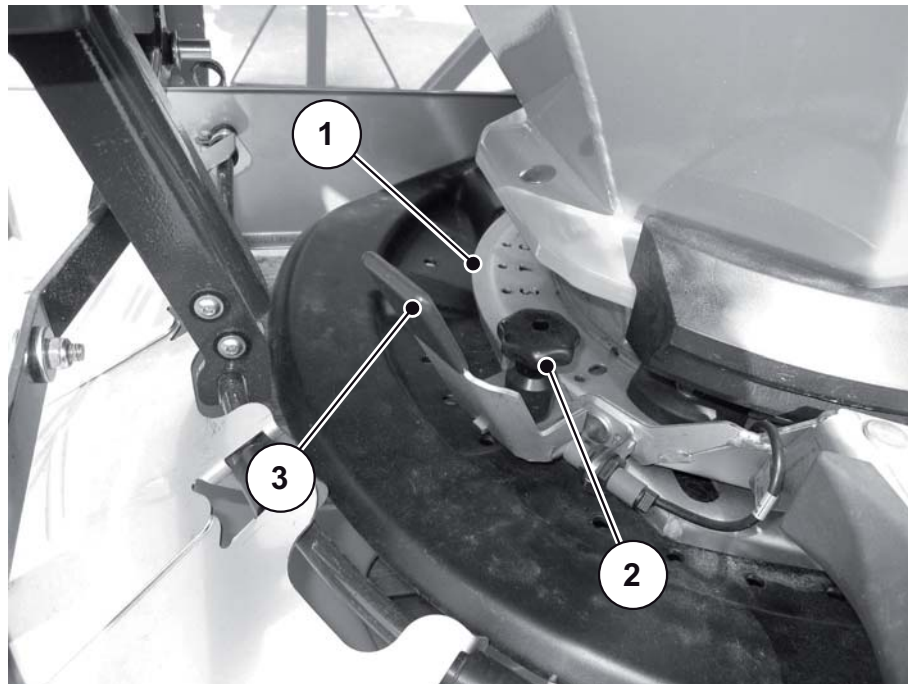

Figure 7.9: Half-side slide adjustment
- Lower the right spreading width limiter and close the half-side slide (refer to figure 7.9).